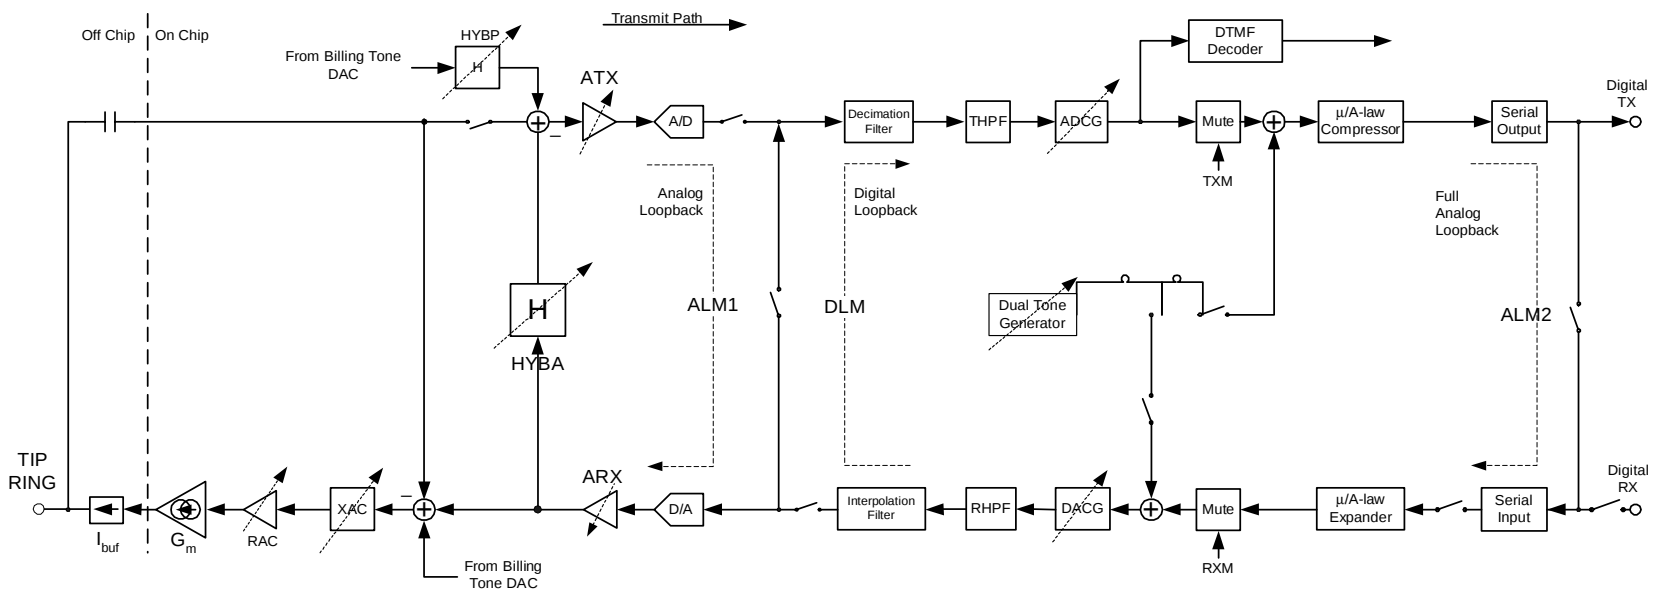

Figure 23. AC Signal Path Block Diagram
Unlike traditional SLICs, the codec function is integrated into the ProSLIC. The 16-bit codec offers programmable gain/attenuation blocks and several loop-back modes. The signal path block diagram is shown in Figure 23.
The block diagram for the voice-band signal processing paths are shown in Figure 23. Both the receive and the transmit paths employ the optimal combination of analog and digital signal processing to provide the maximum performance while, at the same time, offering sufficient flexibility to allow users to optimize for their particular application of the ProSLIC. All programmable signal-processing blocks are symbolically indicated in Figure 23 by a dashed arrow across them. The two-wire (TIP/RING) voice-band interface to the ProSLIC is implemented using a small number of external components. The receive path interface consists of a unity-gain current buffer, I_{BUF} , while the transmit path interface is simply an ac coupling capacitor. Signal paths, although implemented differentially, are shown as single-ended for simplicity.
The ProSLIC provides programmable transhybrid balance with gain block H. (See Figure 23.) In the ideal case where the synthesized SLIC impedance matches exactly the subscriber loop impedance, the transhybrid balance should be set to subtract a -6 dB level from the transmit path signal. The transhybrid balance gain can be adjusted from -2.77 dB to +4.08 dB around the ideal setting of -6 dB by programming the HYBA[2:0] bits of the Hybrid Control register (direct Register 11). Note that adjusting any of the analog or digital gain blocks will not require any modification of the transhybrid balance gain block, as the transhybrid gain is subtracted from the transmit path signal prior to any gain adjustment stages. The transhybrid balance can also be disabled, if desired, using the appropriate register setting.
- The full analog loopback (ALM2) tests almost all the circuitry of both the transmit and receive paths. The compressed 8-bit word transmit data stream is fed back serially to input of the receive path expander. (See Figure 23.) The signal path starts with the analog signal at the input of the transmit path and ends with an analog signal at the output of the
- An additional analog loopback (ALM1) takes the digital stream at the output of the A/D converter and feeds it back to the D/A converter. (See Figure 23.) The signal path starts with the analog signal at the input of the transmit path and ends with an analog signal at the output of the receive path. This loopback option allows the testing of the analog signal processing circuitry of the Si3210 completely independent from any activity in the DSP.
- The full digital loopback tests almost all the circuitry of both the transmit and receive paths. The analog signal at the output of the receive path is fed back to the input of the transmit path by way of the hybrid filter path. (See Figure 23.) The signal path starts with 8-bit PCM data input to the receive path and ends with 8-bit PCM data at the output of the transmit path. The user can bypass the companding process and interface directly to the 16-bit data.
Real and complex two-wire impedances are realized by internal feedback of a programmable amplifier (RAC) a switched capacitor network (XAC) and a transconductance amplifier (G_m). (See Figure 23.) RAC creates the real portion and XAC creates the imaginary portion of G_m 's input. G_m then creates a current that models the desired impedance value to the subscriber loop. The differential ac current is fed to the subscriber loop via the ITIPP and IRINGP pins through an off-chip current buffer (I_{BUF}), which is implemented using transistor Q1 and Q2 (see Figure on page 16). G_m is referenced to an off-chip resistor (R_{15}).